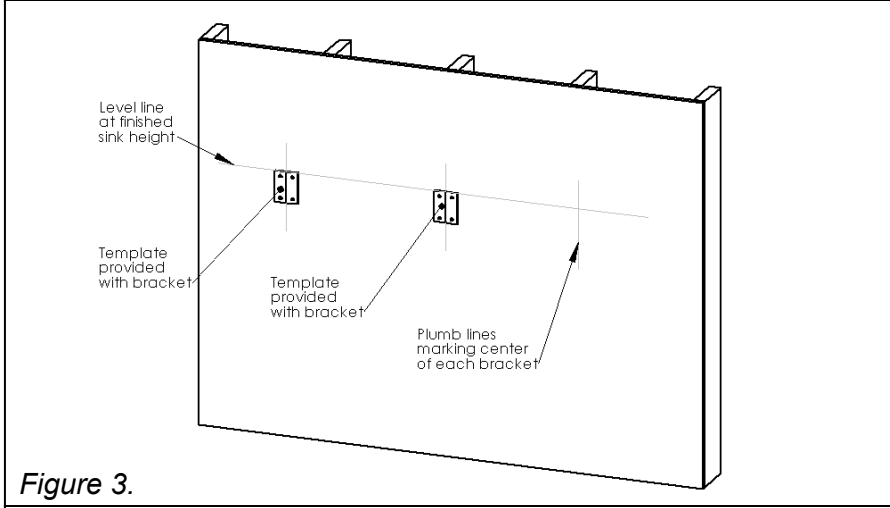

Figure 3.
5. Tape the templates to the wall according to the instructions on each template. Be sure to check all measurements and layout at this point. *See Figure 3.*